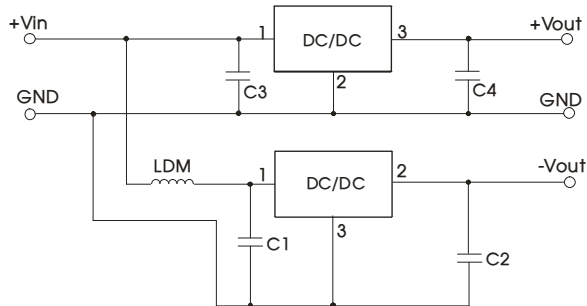

Fig. 3 Positive and Negative output application circuit
- 3.When using configurations as shown in figure 3, we recommended to add an inductor (LDM) with a value of up to 10 μ H which helps reducing mutual interference;
- 5.To further reduce the output ripple and noise, we suggested the use of a "LC" filter at the output terminals, with an inductor value (L) of 10 μ H-47 μ H.